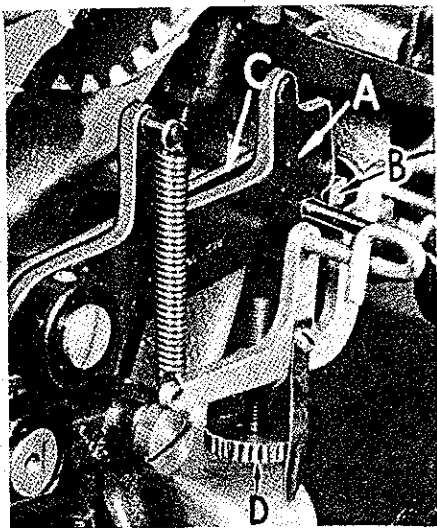
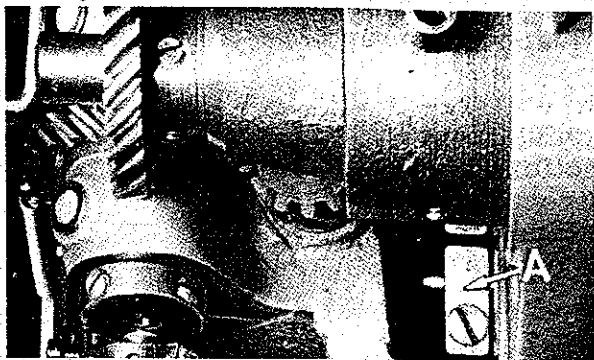
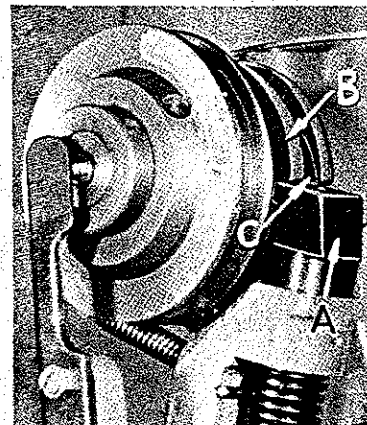

Fig. 15
Fig. 17
Fig. 16
Check the pull-off lever plunger (B, Fig. 15) to be sure it operates freely. Looking down into the head of the machine under the front main shaft bearing, loosen the clamp screw in driving crank (A, Fig. 17), and manually raise the pull-off lever
The pull-off lever (A, Fig. 15) is set correctly when it snaps off the plunger (B) as the stop motion plunger (A, Fig. 16) comes to an abrupt stop against the stop motion disc (B) when operating machine by hand.
To adjust, release machine from its stop motion, and turn the pull-off lever (A, Fig. 15) and plunger operating lever (C). Then, carefully lower the pull-off lever (A) until it just drops off the point of the plunger (B). Then, carefully tighten clamp screw in driving crank (A, Fig. 17).
If too much thread tail shows on completed tack, turn pull-off lever control screw (D, Fig. 15) clockwise to reduce length of tail. If starting thread is too short, causing loss of stitches, turn the control screw counterclockwise until slight amount of tail shows.